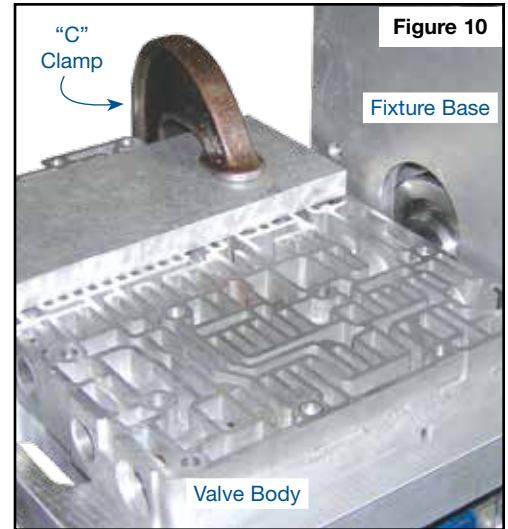

Figure 10
- f. Using a “C” clamp, clamp valve/pump body securely to fixture base (Figure 10). It is recommended to use only one clamp, as two clamps may distort valve/pump body. Position valve/pump body close to reamer guide. Do not clamp over the bore being repaired.